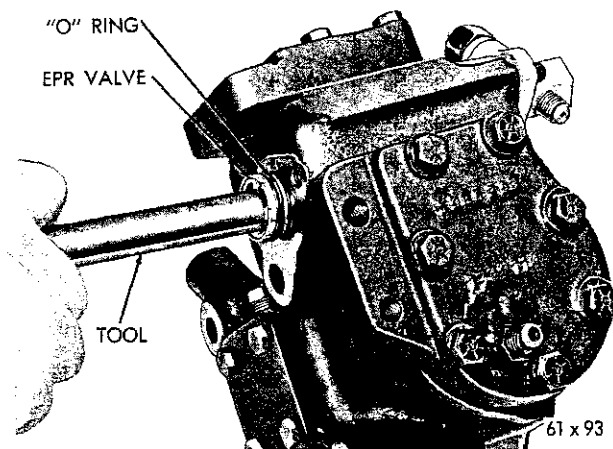

Fig. 38—Removing the EPR Valve
- (2) Remove the EPR Valve and "O" ring from the compressor using Tool C-3822, by rotating the valve counterclockwise slightly, as shown in Figure 38.